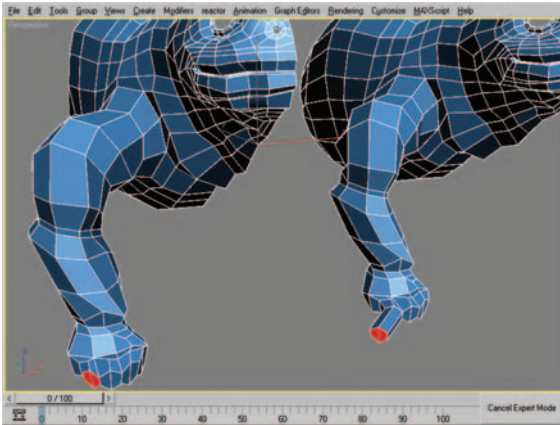

Figure 9.61 Polygon selection and resulting extrusion.
23. Select the two polygons highlighted in Figure 9.61 (left) and use the Extrude settings to create a branch for the first segment of the finger. Select Group for the Extrusion Type, and set the extrusion height accordingly. In my example the distance is just over 1.